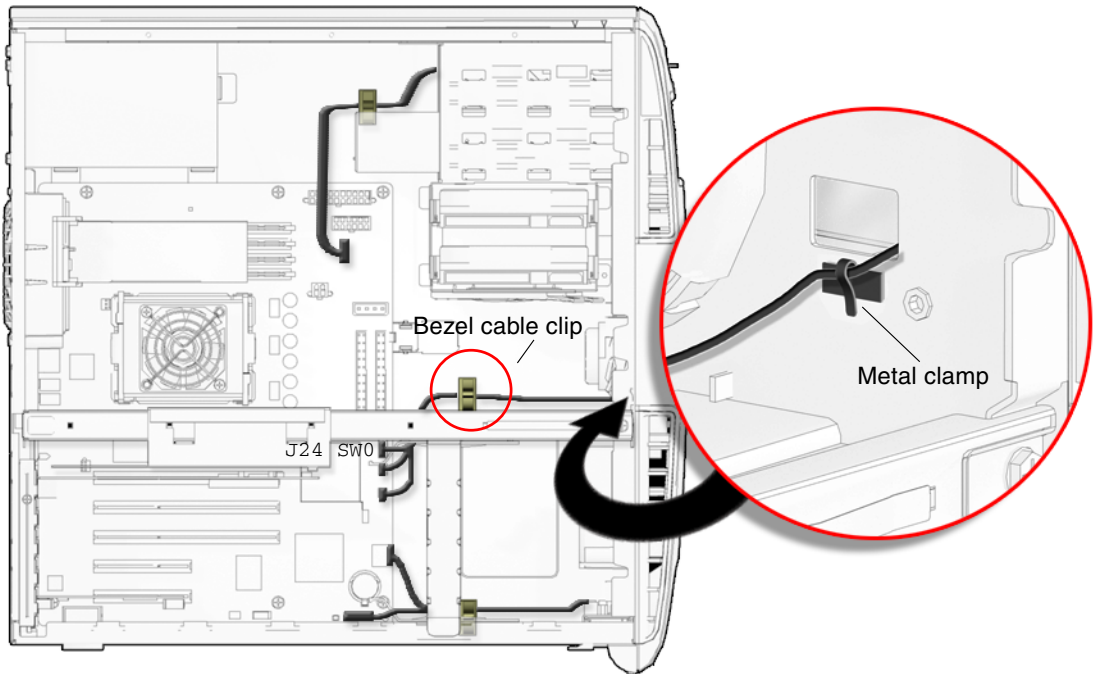

FIGURE 14-17 Removing the Power Switch Assembly Cable From the Bezel Cable Clip and Metal Clamp
3. Open the bezel cable clip in the center of the chassis and remove the power switch assembly cable from the clip. See FIGURE 14-17.
4. Open the metal clamp and remove the power switch assembly cable. See FIGURE 14-17.